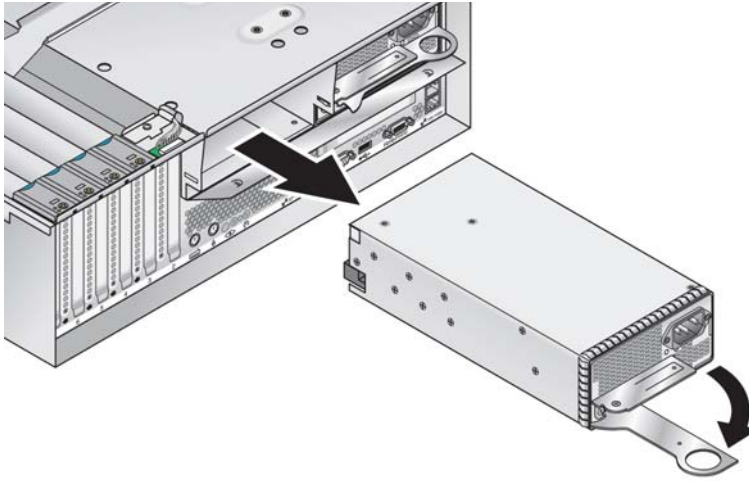

FIGURE 5-23 Removing an Individual Power Supply
2. **At the outside rear of the server, pull the finger-ring on the power-supply handle/lever toward you to disengage the power-supply connector from the power distribution backplane (see FIGURE 5-23).**
- a. Open the power-supply handle to the fully open position, as shown in FIGURE 5-23.